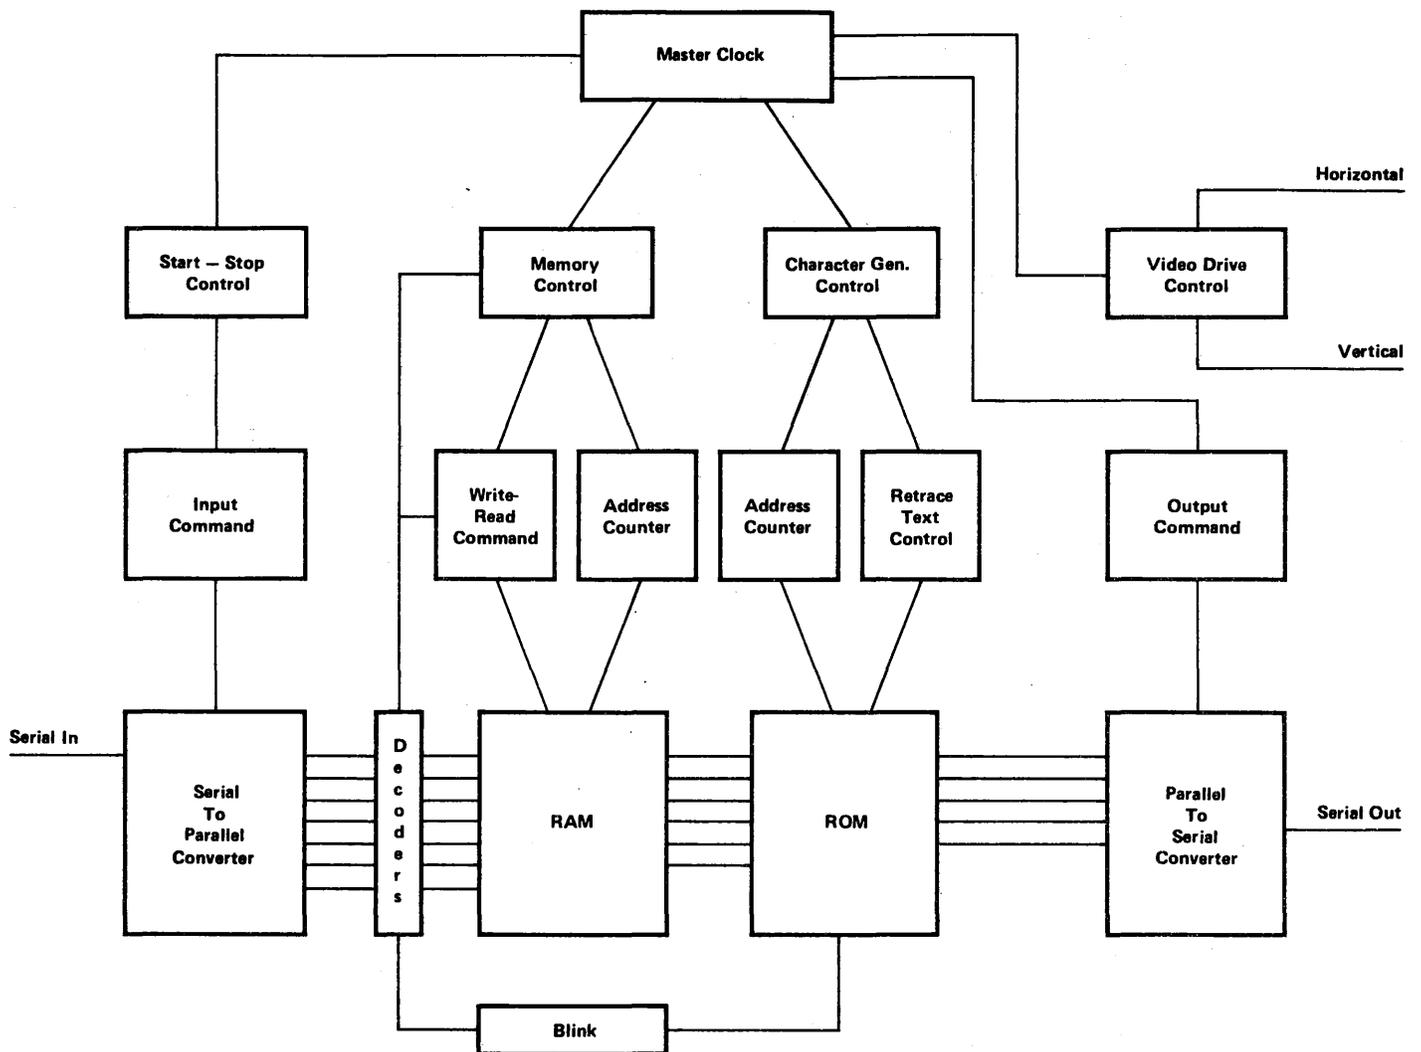

Figure 3-6. Data Converter Command and Control Diagram
3.23 Control Logic. As indicated by figure 3-6, the process of accepting serial data and converting to printed words on the CRT screen is a complex operation. The master clock, always running, drives the control operation through a series of